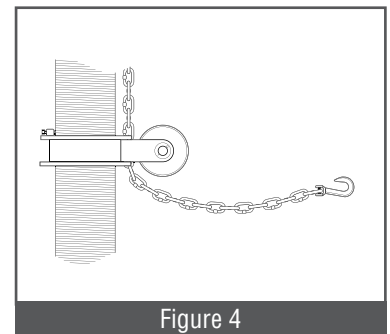

Figure 4
- Support the collar assembly with one hand and loosen collar locking knob. Position the collar at desired position for pull and tighten the collar locking knob (figure 4).